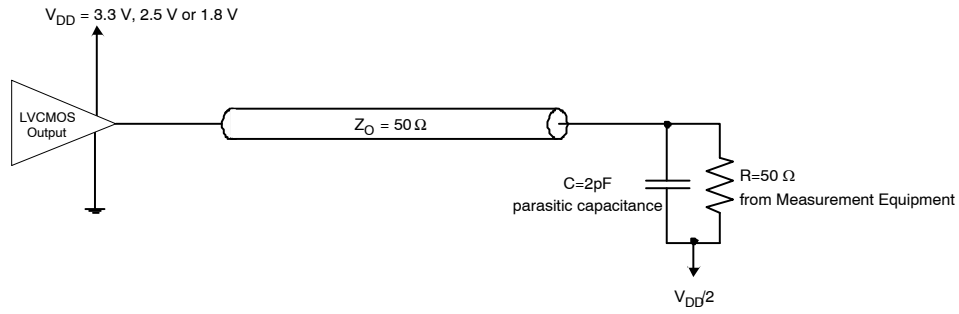

Figure 2. Test Load Circuit
5. All typical values are at respective nominal V_{DD}. For switching characteristics, outputs are terminated to 50 Ω to V_{DD}/2 (see Figure 2).